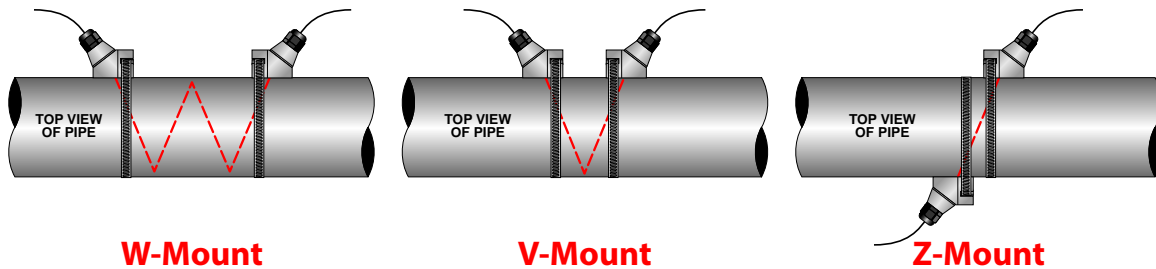

Figure 4: Transducer mounting configurations
2. If the application requires DTTR, DTTN or DTTH transducers, select a mounting method for the transducers based on pipe size and liquid characteristics. See *Table 2 on page 17*. The three transducer mounting configurations are shown in *Figure 4*. See “*Transducer Mounting Configurations*” on page 20 for mounting procedures.